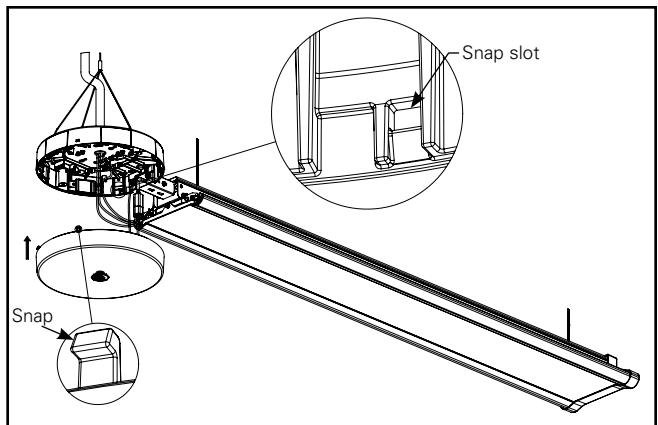

Figure 11.1.
- Locate four snaps of the hub bottom cover into the hub top cover (figure 11.1).